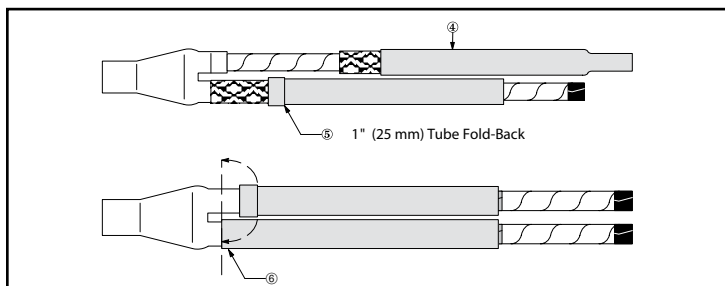

Figure 3
5. Install re-jacketing sleeve assemblies (Figure 3):
- a. Open polyester braid end and push assembly into place (④, Figure 3).
- b. Slide assembly close to desired final position and fold silicone sleeve back on itself for 1" (25 mm) (⑤, Figure 3).
- c. Trim off exposed polyester braid material (⑤, Figure 3).
- d. Push assembly into final position (adjacent to finger of breakout boot if used) and flip silicone sleeve into place (⑥, Figure 3).